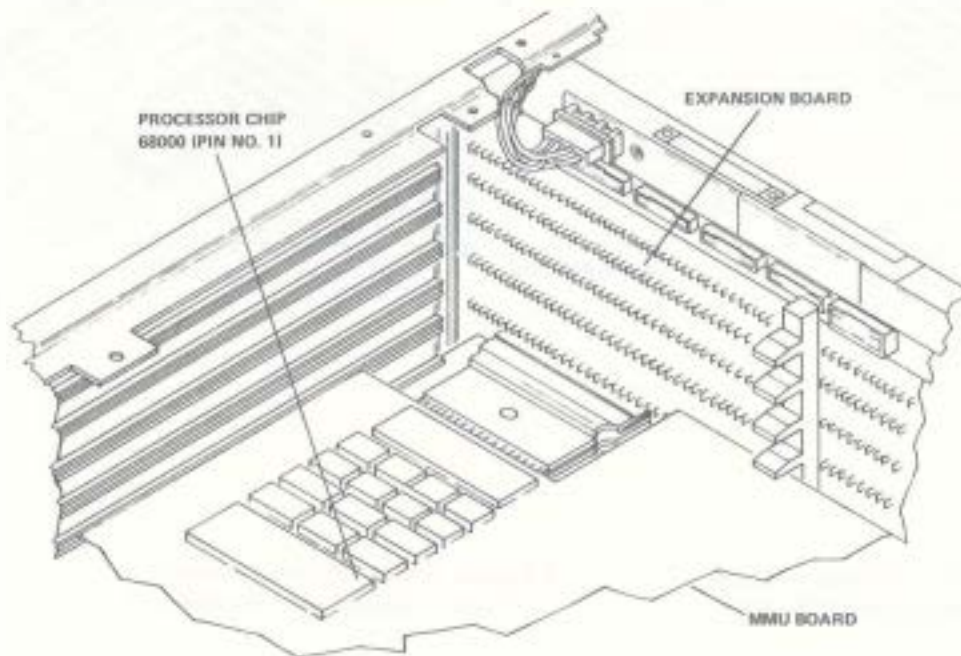

Figure 5-38. MMU Board with Processor Chip
3. The 68000 processor chip is positioned in place (180° opposite normal planar board installation) onto the MMU board. Note position of pin 1. See Figure 5-38.